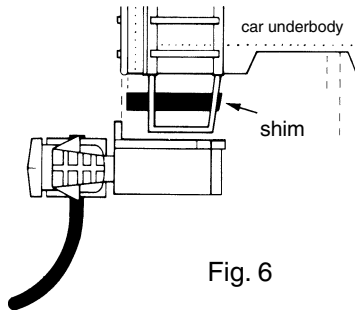
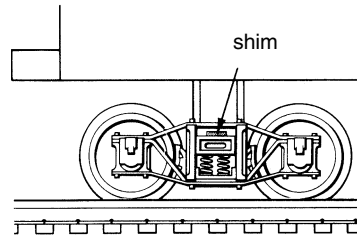

Fig. 6
Fig. 7
5. If coupler mounting surface is uneven, or too high from the track, use one or more plastic shims to support the coupler gear box assembly (Fig. 6). In many cases, you can place shims on, or between, the center sills and end sills of the car underframe to provide a solid base for the gear box. Temporarily mount shims. Then set gear box assembly in place and mark location of mounting holes on shims. Remove and drill and tap shims in the marked locations for 2-56 screws. Remount shims in their original position, this time using screws or Super Glue to hold them solid. The coupler gear box assembly can now be screwed into place. An alternative if the coupler is too high, is to glue shims between the body bolster and the truck side frames (Fig. 7), which lowers the car.